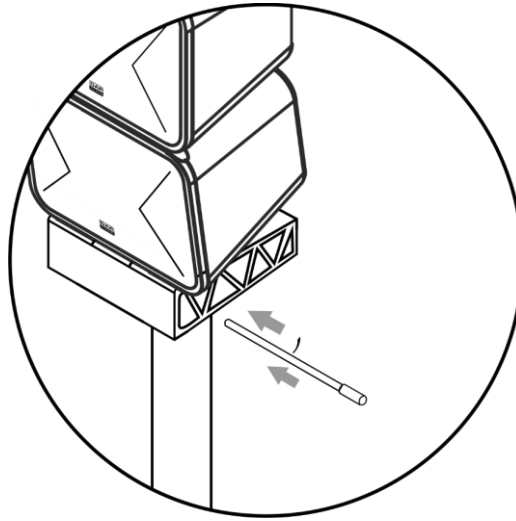

Fig. 07
- 03) Mount the first Xi-3 speaker on the Mobile Bracket and insert the rigging pin to secure it in position (fig. 07).